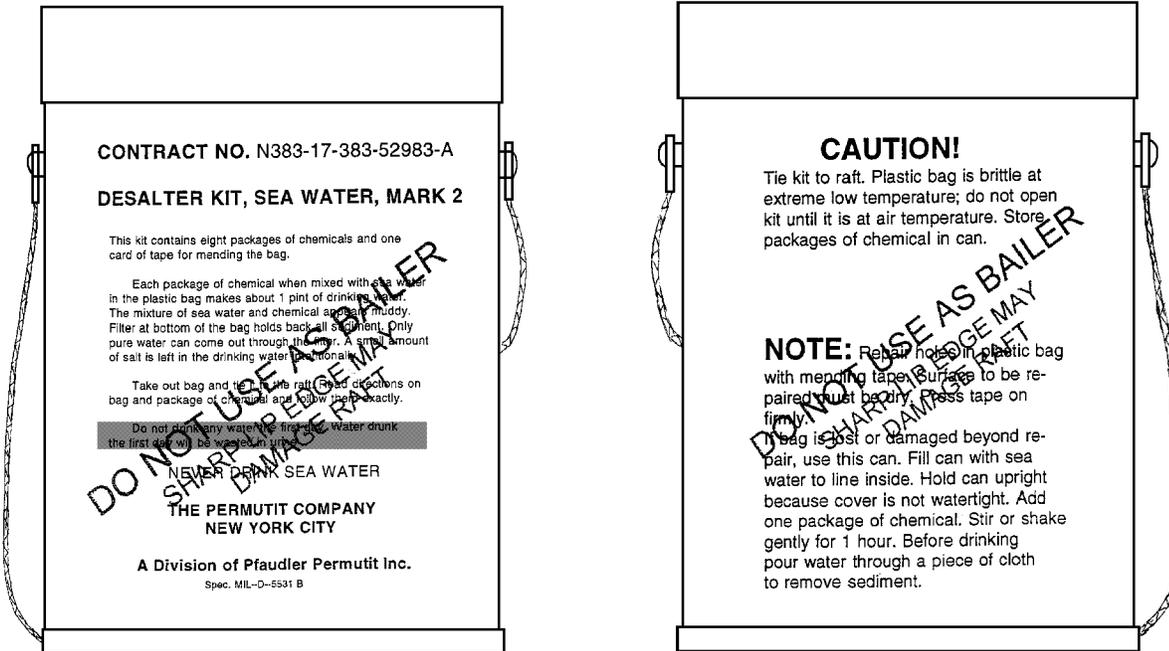

Figure 9-10. Desalter Kit, Sea Water, Mark 2, Type II
9-58. Water Desalter Kits (NIIN 00-372-0592) are intended for emergency use when no other fresh water is available. Multi-place liferafts will contain Water Desalter Kits in a quantity which will support the immediate needs of survivors. Water Desalter Kits (figure 9-10) will replace bagged or canned water for use in Arctic/Undertook environments as designated by Type Commanders.
2. Using block letters, carefully hand print the message as shown on figure 9-10. Print the message across both front and back of container. Letter size is to be approximately 3/8-inch high for the words DO NOT USE AS BAILER. Letter size is to be approximately 1/4 inch high for the words SHARP LIP EDGE MAY DAMAGE RAFT. A soft lead pencil and a straight edge may be used to place guide lines. Use a corner of the green felt tip marker with light pressure to maintain narrow width of lettering. This will permit appropriate thickness and spacing of letters. Note that this is an overprint just heavy enough for the printing underneath to be readily distinguishable. The green color has been selected for the best combination of readability and transparency. Do not use black for lettering. Vigorous rubbing with a soft cloth immediately after application will remove printing errors.